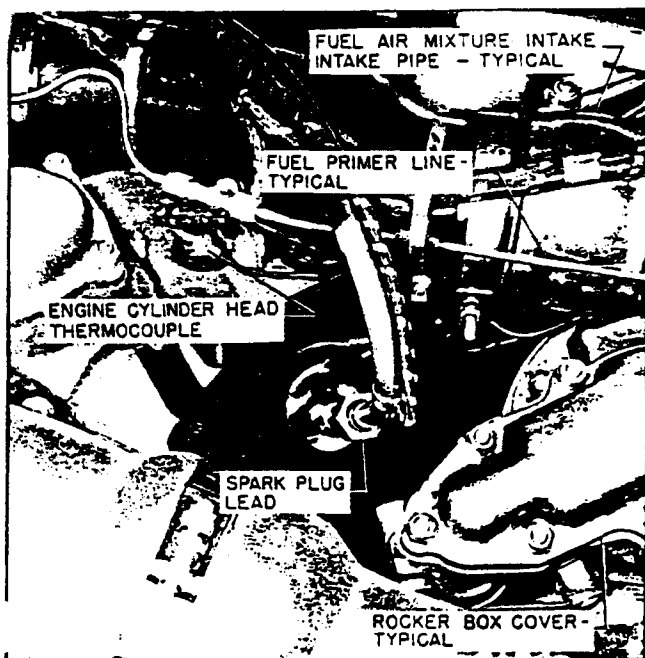

Figure 34. Cylinder Head Thermocouples
6. INSTALLATION AND ADJUSTMENT OF PRIMER LINES AND CYLINDER HEAD THERMOCOUPLES.- (See figures 34, 35, and 36.) Install the clamps and thermocouple cables on each intake manifold. Insert each thermocouple into its adapter in the cylinder head and push the thermocouple nut down so that its slot engages the pin in the adapter. Turn the nut clockwise to secure it. Assemble the primer lines and clamps to Nos. 7, 1 and 2 intake manifolds.